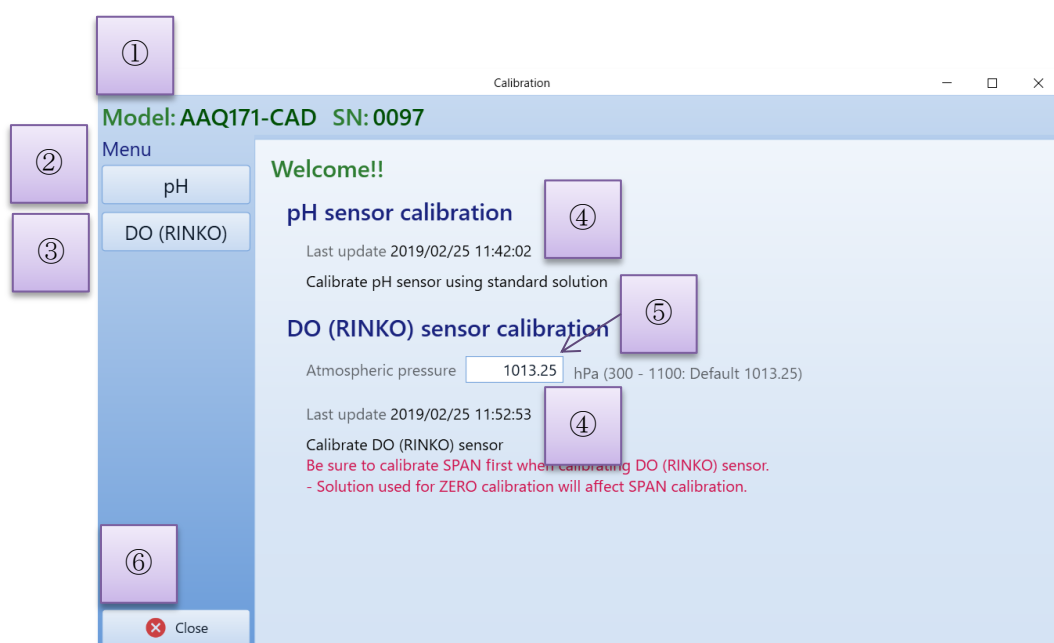

Figure 6.39 Calibration window
- (3) Choose [Tools > Calibration] and display “Calibration”. (Figure 6.39 / Table 6.5)